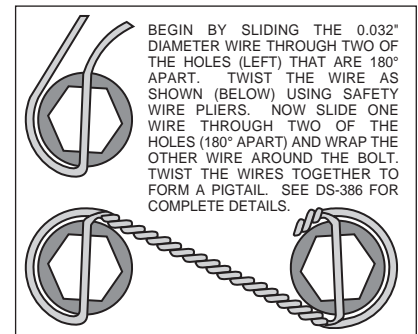

Figure 3. Safety Wire Diagram
- With the larger I.D. side of the rotor (5) facing away from the hat (6), bolt rotor (5) to hat (6) through the backside of the rotor using washers (7) and bolts (8). Using an alternating sequence, apply red *Loctite*® 271 to the threads and torque bolts to 155 in-lb. For an added measure of security, the bolts may be safety wired using standard 0.032 inch diameter stainless steel safety wire as shown in Figure 3. Please refer to Wilwood's data sheet DS-386 (available at www.wilwood.com/Pdf/DataSheets/ds386.pdf) for complete safety wire installation instructions. Slide the rotor/hat assembly onto the hub. Install a couple of lug nuts (finger tighten) to keep the rotor/hat assembly in place while continuing with the installation.